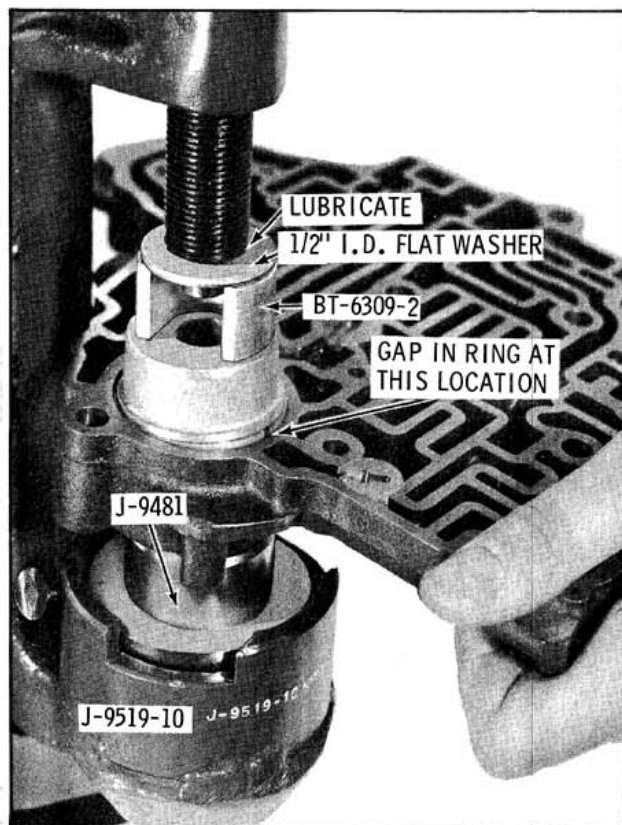

Fig. 6-99 Installing Front Accumulator
2. Using tools as shown in Fig. 6-99, install the accumulator spring and piston and secure with retaining ring. While installing servo, jiggle valve body while rotating screw to prevent piston binding. Push in on sides of piston ring 90° from gap to start ring in bore.